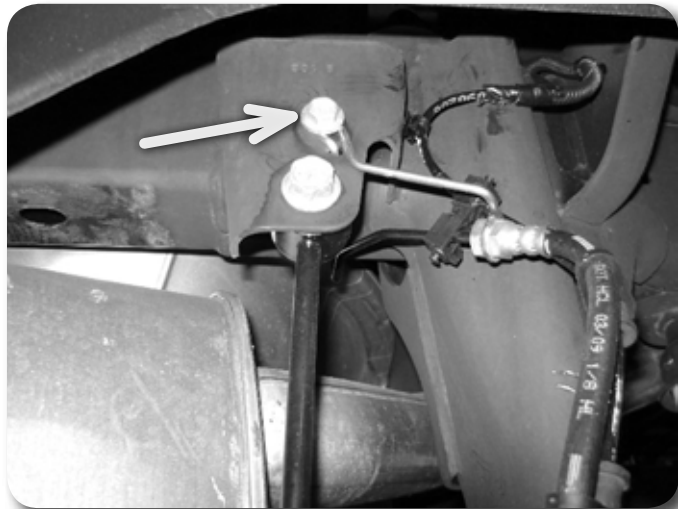

Figure 24
75. Disconnect brake line brackets from the outside of the frame rails. Remove the ABS wires from the retaining clips. **Figure 24**